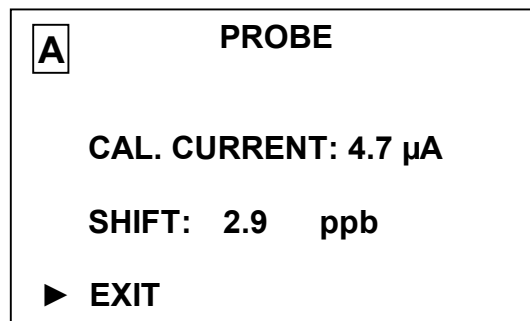

Fig. 2.7
If in 40 min the "menu enter" button is not pressed, in 45 min after calibration beginning the analyzer will exit from the air calibration mode and the display shown in Fig. 2.7 will appear.
- 7 Press the "^{menu}enter" button. The analyzer will exit the hydrogen calibration mode to enter into the probe parameters view mode. The display shown in Fig. 2.7 will appear.
- 9 Set the pointer against YES line and press the "^{menu}enter" button to enter probe parameters based on hydrogen calibration and new calibration coefficients onto the probe non-volatile chip memory. The display shown in Fig. 2.7 will appear.